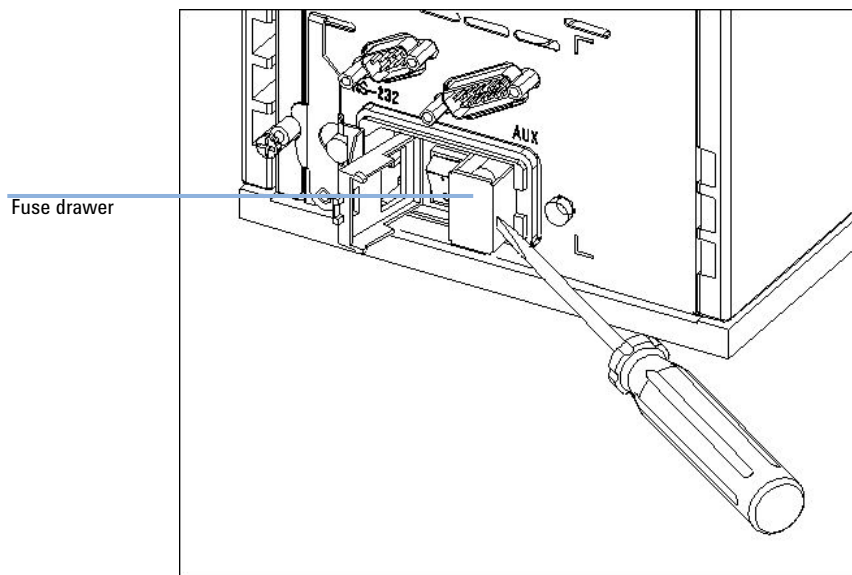

Figure 11 Remove fuse drawer
- 4 Pull out the fuse drawer as shown in Figure 11 on page 141.